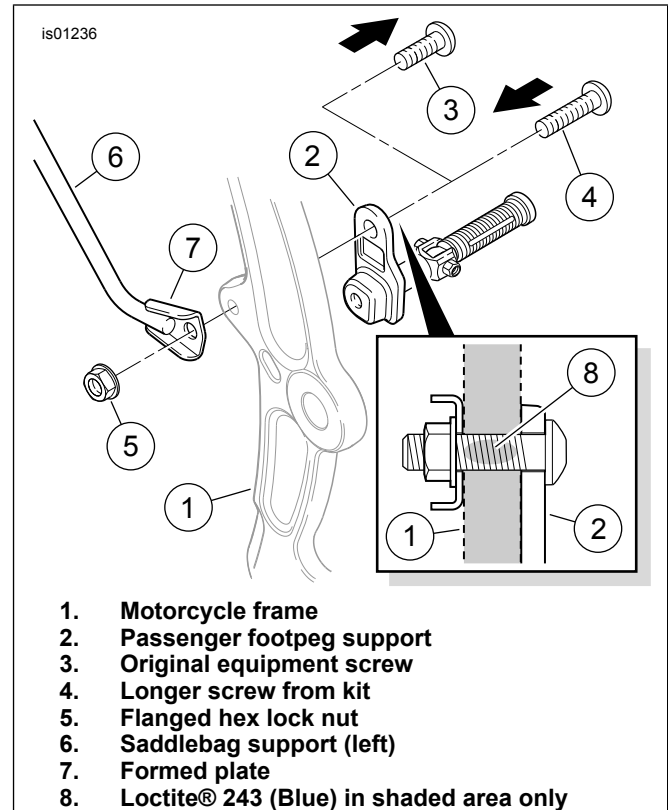

Figure 1. Lower Front Saddlebag Support (Left Side)
- See Figure 1. Remove the 7/8 in. (22 mm) long screw (3) retaining the left side passenger footpeg and footpeg support (2) to the motorcycle frame (1). Discard the screw.
- the lower left-side saddlebag support (6),
- the 1-1/2 in. (38 mm) long button head screw (7), and
- the larger-diameter flanged hex locknut (8).
- See Figure 1. Insert the **new** Torx screw (4) from the kit through the hole in the footpeg support (2), then apply a few drops of Loctite® 243 (blue) (sold separately) to the portion of the screw threads (8) that will engage the threaded hole in the motorcycle frame.